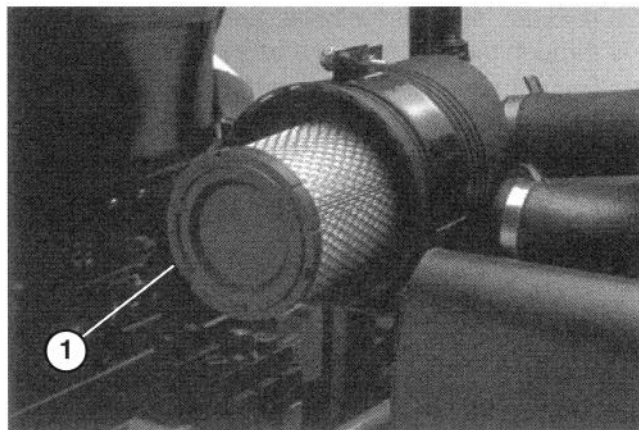

Figure 43
2. Gently slide primary filter (Fig. 43) out of air cleaner body to reduce the amount of dust dislodged. Avoid knocking filter against air cleaner body. **Do not remove safety filter.**